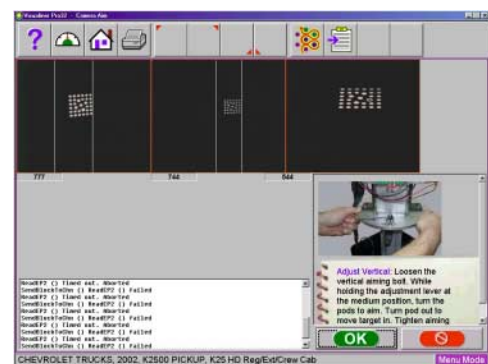

Figure 22
10. Move the RCP fixture back 7 feet, the fixture should be located in front of the rear slip plates. If the targets are not aligned within the vertical lines loosen the vertical aiming bolt, while holding the adjustment lever at the medium position, turn the pods to aim (Figure 22). Tighten the bolt and press “OK” to continue. If the camera aiming procedure was done correctly a message should indicate a successful camera aim and to run the pod rotation position routine.